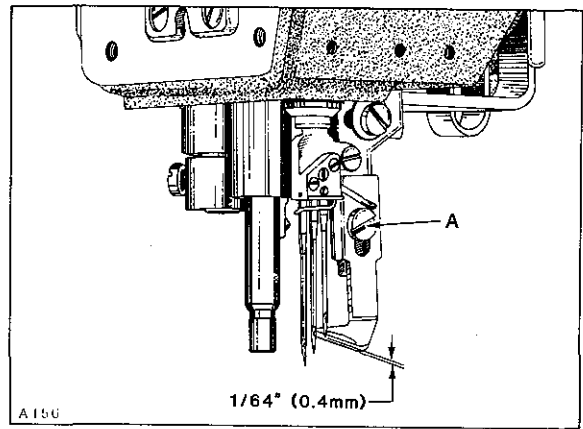

Fig. 26
With needle bar at TOP of stroke, height of stationary spreader thread guide should be positioned with its UNDERSIDE PORTION (laterally in line with needles) 1/64 inch (0.4mm) below the TIP OF RIGHT needle as shown in Figure 26. Adjustment can be made by loosening screw (A), reposition as required...